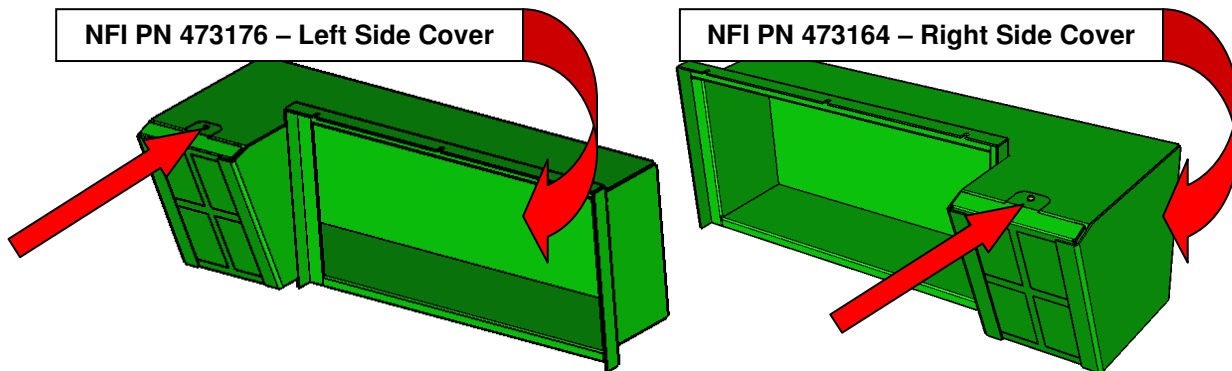

Figure 1 – AIM Cover Reference
1. Remove the screw (NF P/N 14S98010) holding the filter frame (NF P/N 473160) to the AIM Cover. See Figure 1.